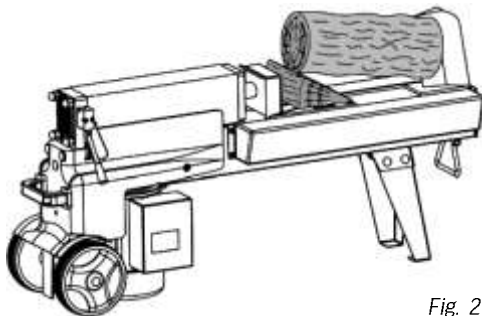

Fig. 2
2. Insert the narrow edge of a split log wedge under the jammed log (Fig. 2).